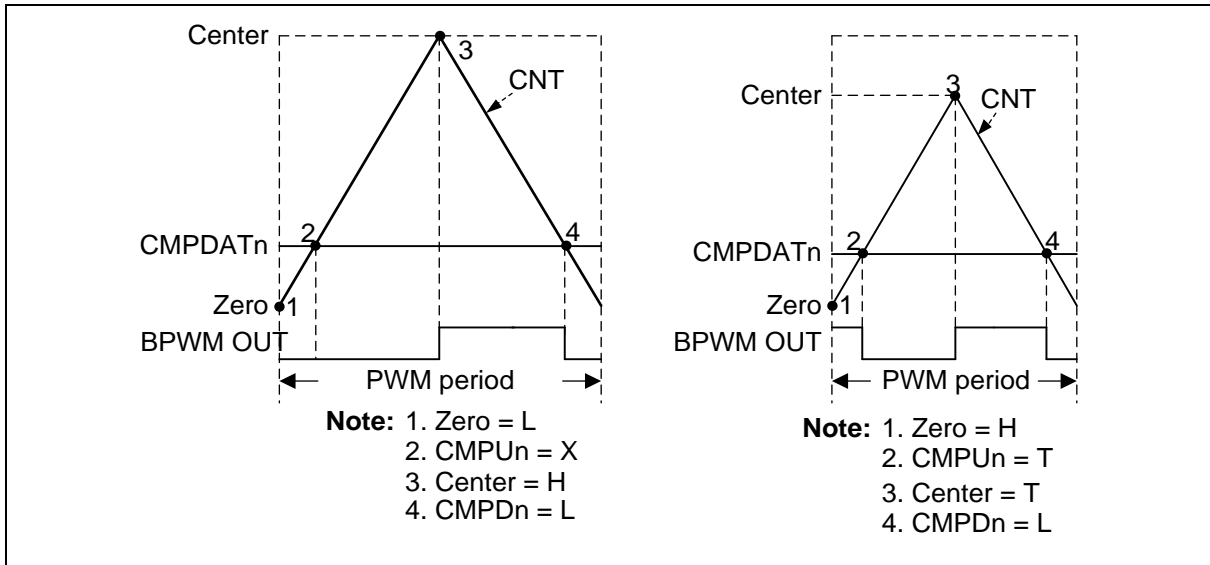

Figure 6.16-14 BPWM Pulse Generation (Left: Asymmetric Pulse, Right: Variety Pulse)
Each event point can decide BPWM waveform to do nothing (X), set Low (L), set High (H) or toggle (T) by setting BPWM_WGCTL0 and BPWM_WGCTL1 registers. Using these points can easily generate asymmetric BPWM pulse or variant waveform as shown in Figure 6.16-14. In the figure, there is a comparator n to generate BPWM pulse, where n denotes channel number 0 to 5. CMPU denotes CNT is equal to CMPDAT when counting up, and CMPD denotes CNT is equal to CMPDAT when counting down.